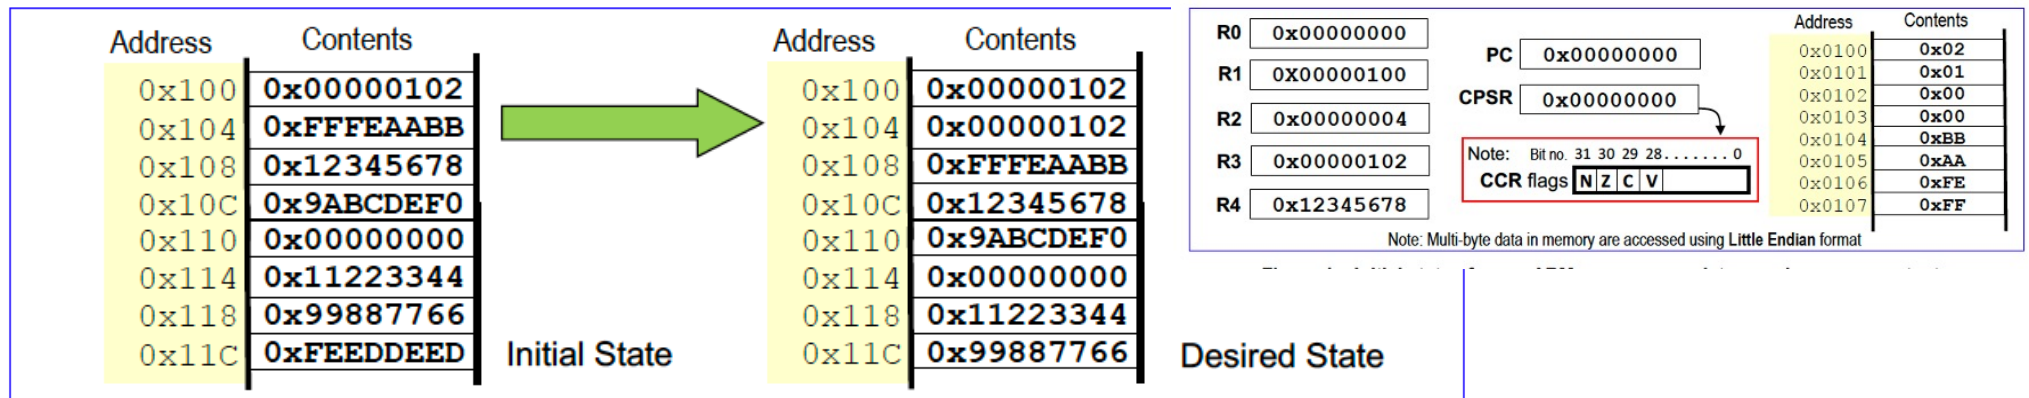

Figure 2 – The initial and desired end result of the memory transfer operation.
- (6) How can the memory copy operation specified in part (5) be done efficiently for 7 memory locations with a loop structure, as shown in Figure 2? Assume the initial values in the registers are shown in Figure 1. Do not concern yourself with the code constructs for the loop structure, only the body of the loop that does the memory copy for contents in **0x0100** to **0x0104** , **0x0104** to **0x0108** and so on.